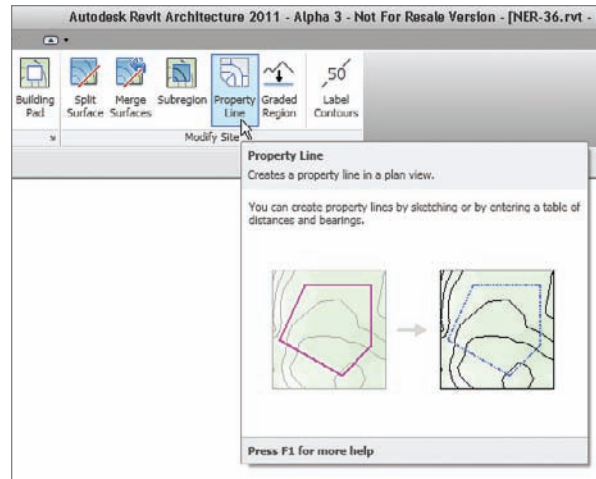

FIGURE 18.23 The Property Line button
2. In the Massing & Site tab, click the Property Line button, as shown in Figure 18.23.